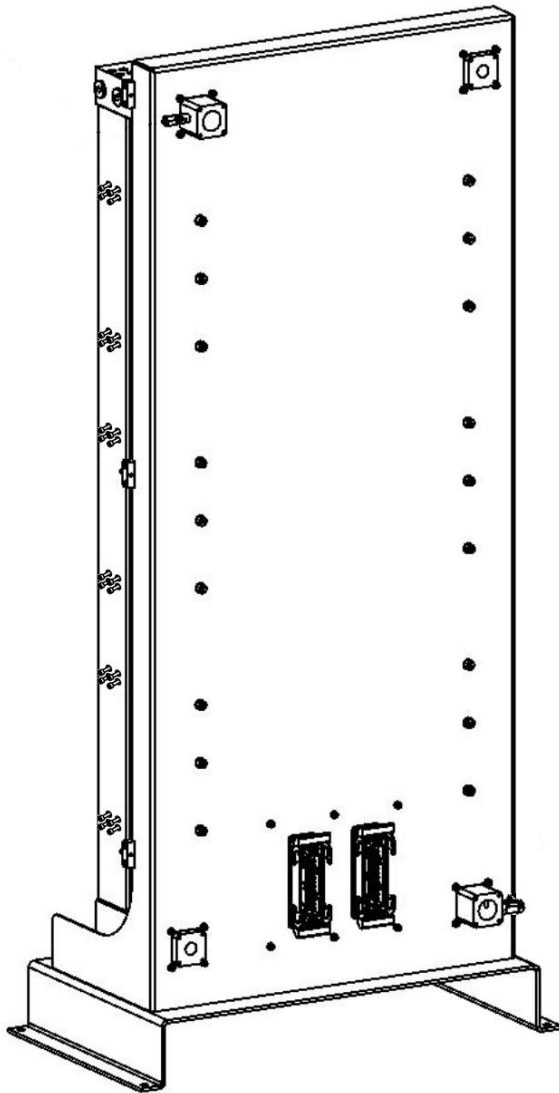

Figure 71. Loosen screws and remove the vertical bar
10. Remove all the screws (M6) on the right vertical bar on the generator, see Figure 71.